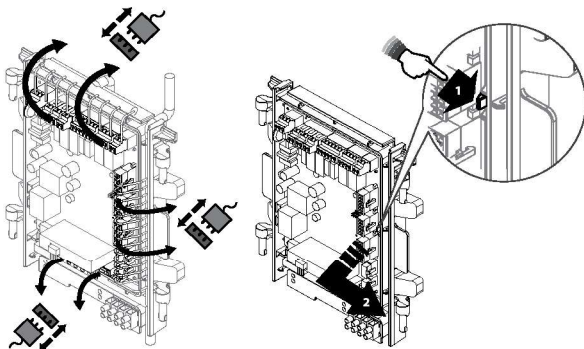

Fig. 9 - Prestige Solo & Excellence - Removal of old PCB
3. Remove the circuit board and discard according to applicable local regulations (See Fig. 9).